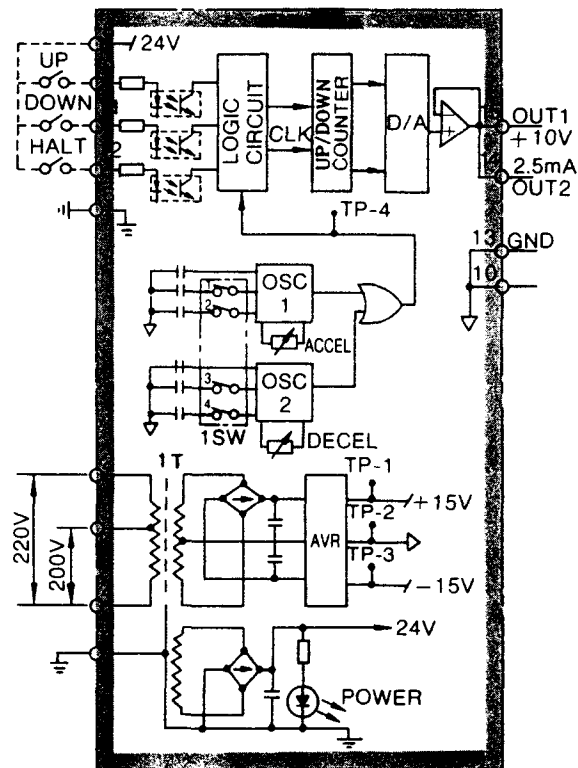

Figure 6. Up/Down Setter Schematic
6. Description of Up/Down Setter Operation (Ref. Figure 6)